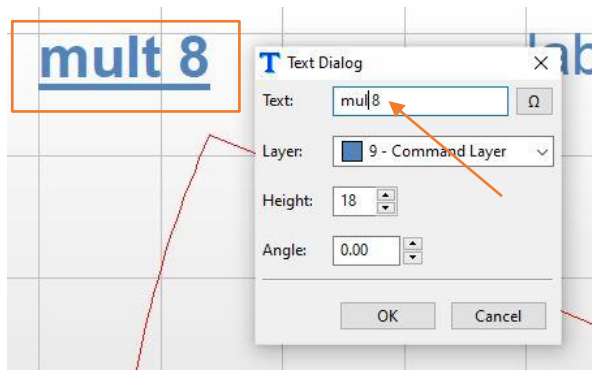

Figure 154
13. **Text:** Finally remove the added letter “t” from our “mult 8” text to get the correct “mul 8” NestKing Command. Therefore just double-click on the “mult 8”-text object and remove the “t” in the text entry (Figure 154).